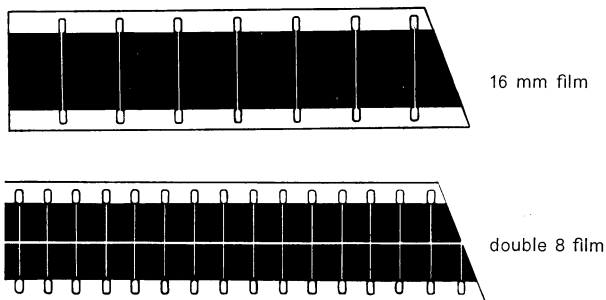

Fig. 4
- i. The film must not be cut to a point (Fig. 4) nor must it be crinkled. Hold the film between the thumb and the index finger of the left hand and pass it through knife **41** (see Fig. 5 and 7). With the index finger of the right hand press hard on blade **42**, which will cut the end of the film to the right shape for passage through the automatic loading device. Throw away the cut end of the film to prevent its passing through to the mechanism.